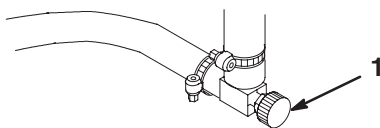

Figure 1
- A. Close the fuel shut off valve below the fuel tank (Fig. 1).